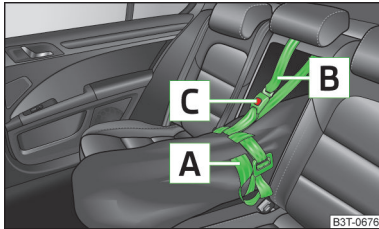

Fig. 97
- Tighten the strap **A** on the free end around the skis in front of the bindings » Fig. 97.
- After placing skis into the through-loading bag, you must secure the bag with the securing strap **B** » Fig. 97.